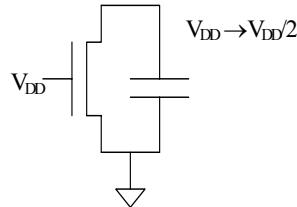

Figure 0.13 The equivalent resistance is to be computed for the H \rightarrow L transition.
- b. Next, obtain the resistance equation 3.43 using the Figure 0.13. Assuming the V_{GS} is kept at V_{DD} . Calculate the R_{eq} as output (V_{DS}) transitions from V_{DD} to $V_{DD}/2$. (Figure 0.13).